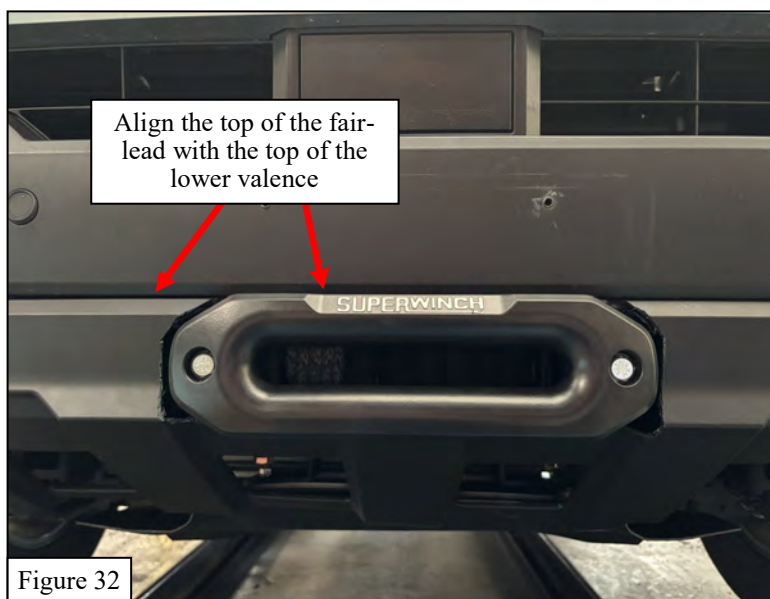

Figure 32
36. Trim the bumper lower valence. Place the winch fairlead centered at the top of the lower valence. Mark the lower valence around the outside of the fairlead. Trim the lower valence along the marked lines. Additional trimming may be needed after the fairlead is installed. See **Figure 32**.